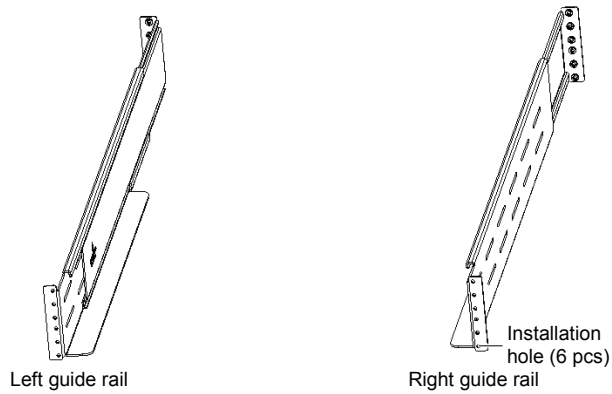

Figure 2-7 Appearance of the guide rail
1) Take out the guide rails (one left guide rail and one right guide rail), guide rail screws and panel screws from the package, distinguish the left guide and right guide rail according to Figure 2-7, and confirm its retractable function respectively.
2. Any side of one guide rail has six installation holes (see Figure 2-7), do not use the two installation holes in the middle when fixing the guide rail. It is recommended to use the top and bottom installation hole (from top to bottom, installation hole 1 and installation hole 6).